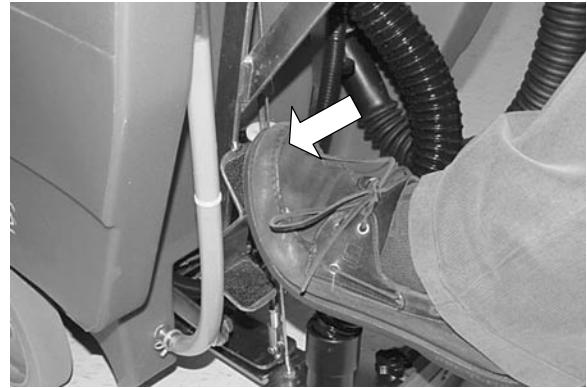

FIG. 4
2. Lower brush head. Step down firmly on top pedal and push pedal forward to lower (Figure 4).